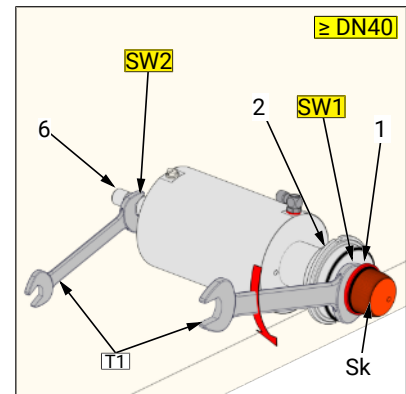

Figure 4
- Fig. 4 Dismounting via spanner flat (SW1) (\geq DN40).
- So that the bore (B1) will be visible, first unscrew the insert (2) as shown in figure.
- Unscrew the piston (1) respectively the flow cone (Skm) from the spindle (6) with a pin wrench (T10).